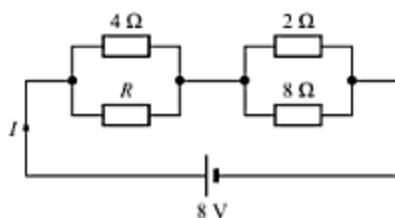

Fig. 2.48
22. If the total power dissipated in the network shown in Fig. 2.48 is  $16\text{ W}$ , calculate the value of  $R$  and the total current.